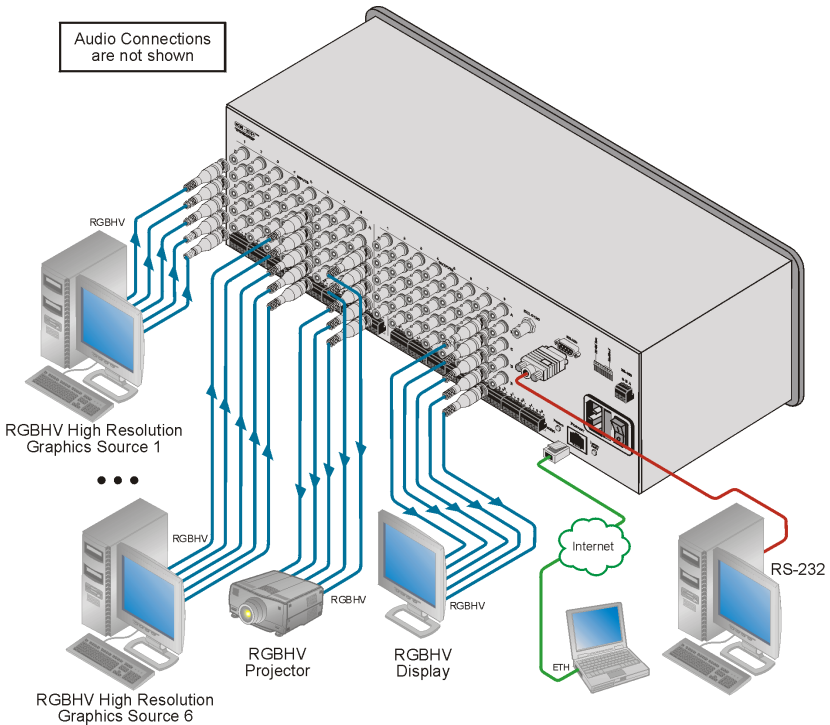

Figure 3: Connecting the VP-885
To connect¹ the **VP-885** to external devices as illustrated in the example² in Figure 3:
6. Connect the power cord³ (not shown in Figure 3).